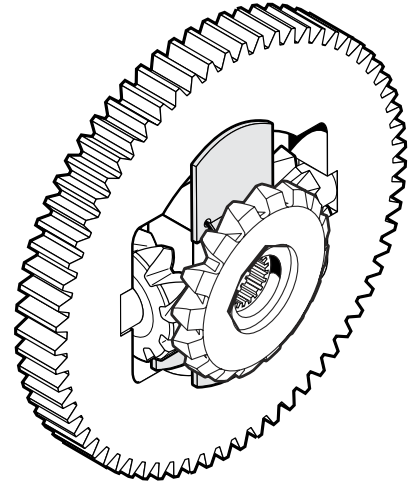

Fig. 40, Differential Gear Assembly
4. Install the Differential Gear Assembly to the Left and Right Axle Shafts. (Fig. 40, 41)